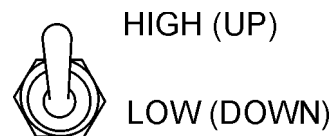

Figure 35. Engine Speed Switch
15. Set the engine speed switch (Figure 35) to low to idle engine, set to high when a load is being applied.